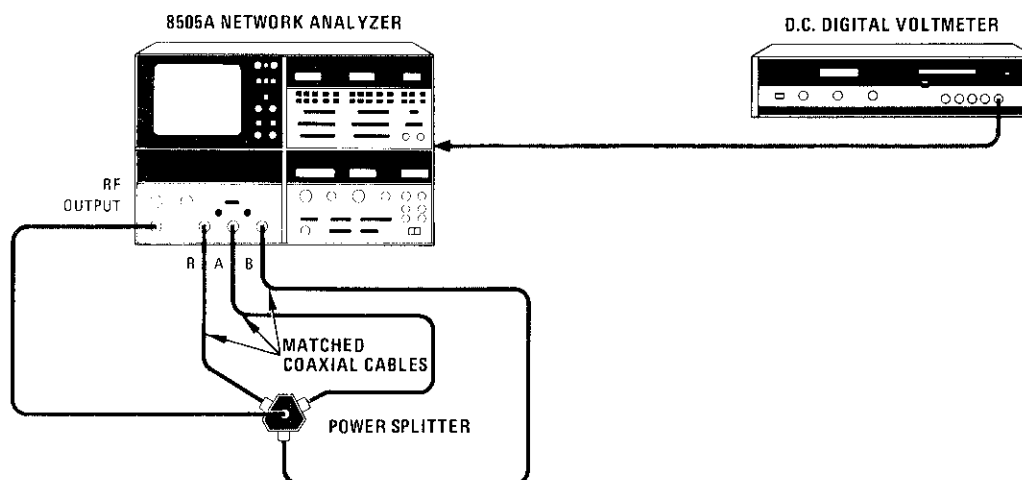

Figure A5-17. A3A5 D/A Converter Adjustment Test Setup
- b. Connect equipment as shown in Figure A5-17.